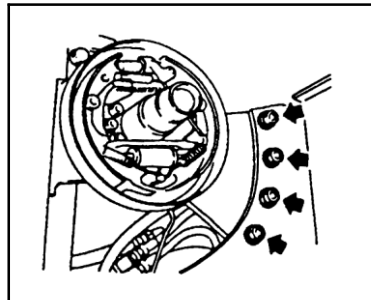

Figure 5-2
- 10) Remove the fixing bolts between the drive axle support sleeve and the frame (see Figure 5-2).